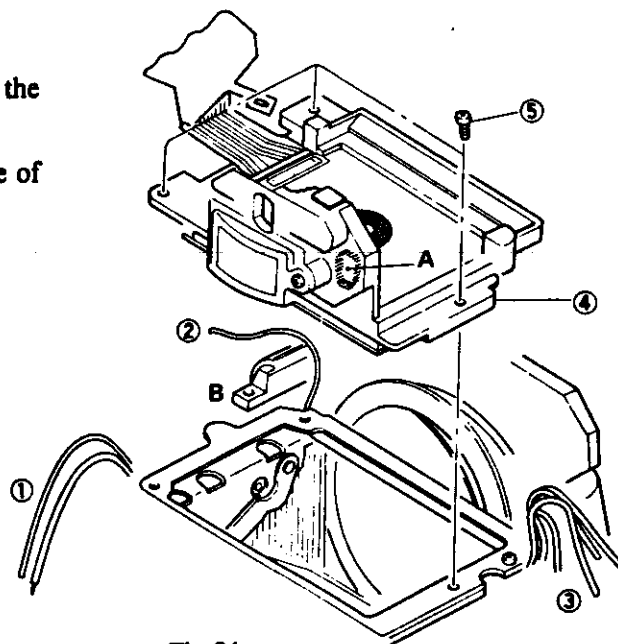

Fig. 24
8. Prism frame assy (see Fig. 24)
- 1) Fix all LEAD WIRES (Nos. 1, 2 and 3) as shown in Fig. 24.